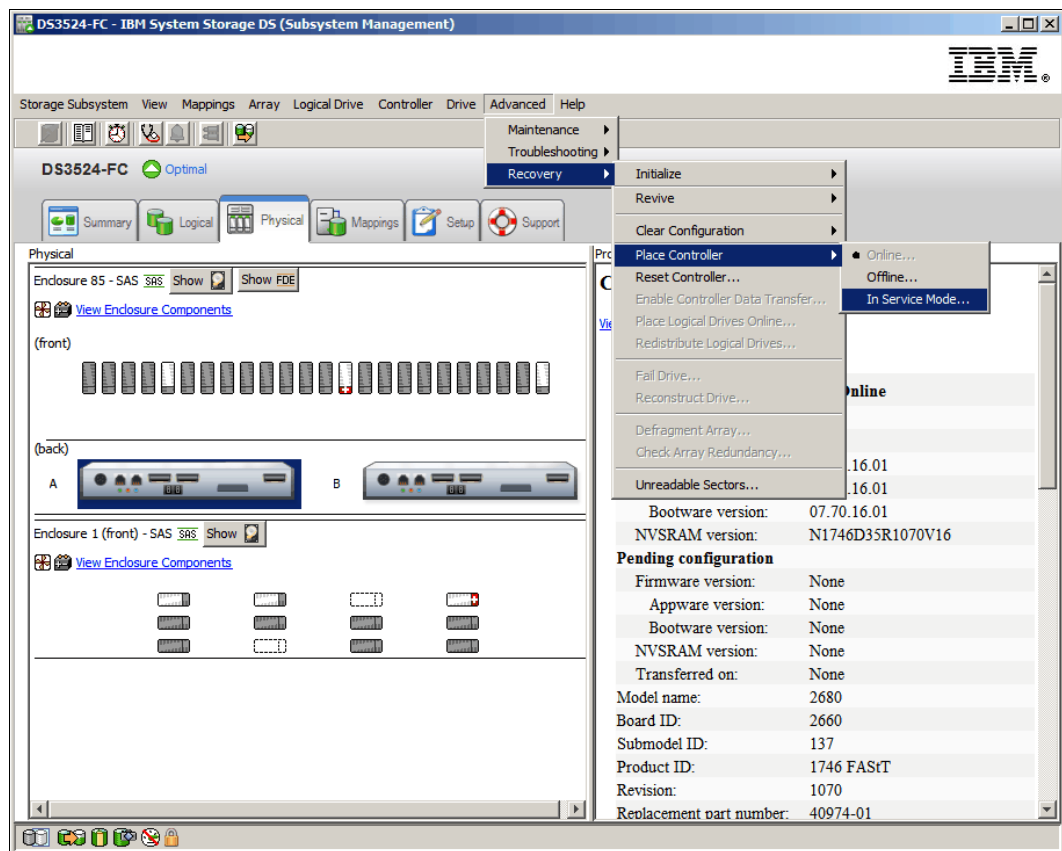

Figure 14-136 Place controller In Service Mode
1. Select the controller in the Physical tab of the DS Storage Manager (Subsystem Management) window and then click **Advanced** → **Recovery** → **Place controller** → **In Service Mode** as shown in Figure 14-136.